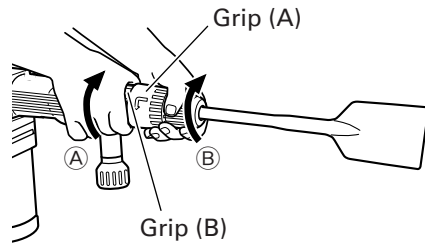

Fig. 4
- (1) As shown in Fig. 4, the blade angle can be freely changed if the grip (A) is turned in the direction of Ⓑ in a state where grip (B) is turned 60 degrees in the direction of Ⓐ.